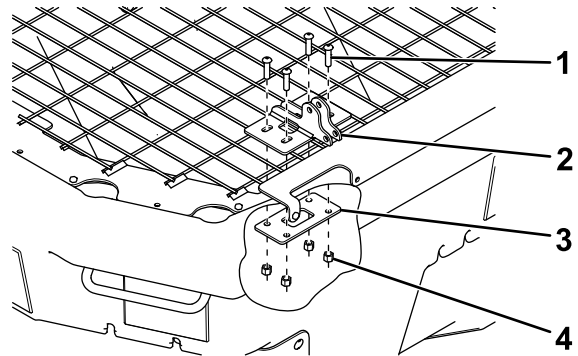

Figure 15
- For VBX 6500 and 9000 spreaders, use 4 bolts (3/8 x 1-1/2 inches), 1 clamp plate, and 4 nuts (Figure 15).